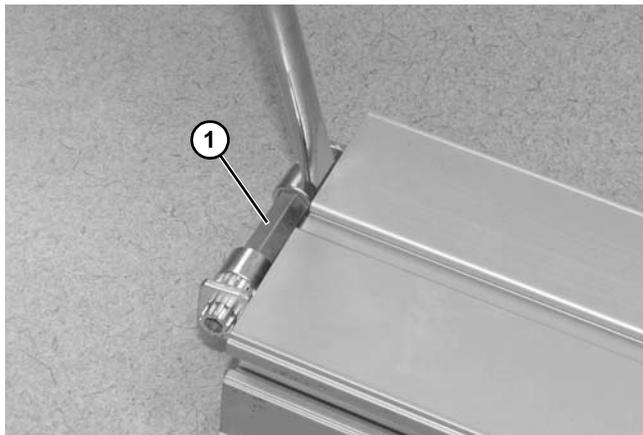

Figure 145
3. Pry pinion assembly (**Figure 145, item 1**) from conveyor frame by alternating sides.